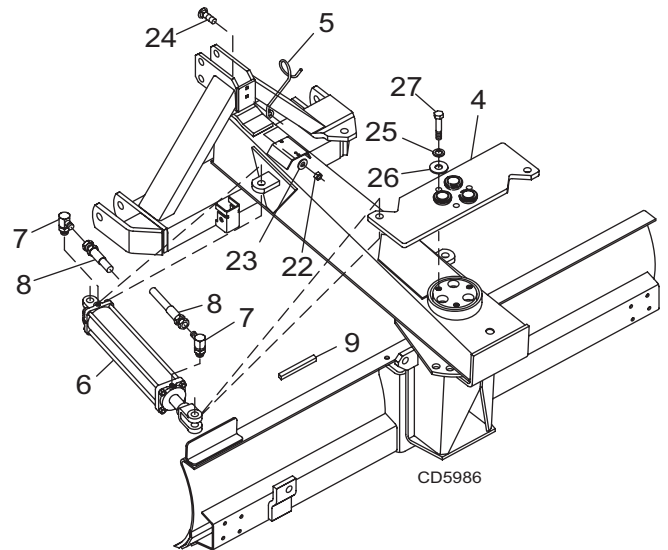
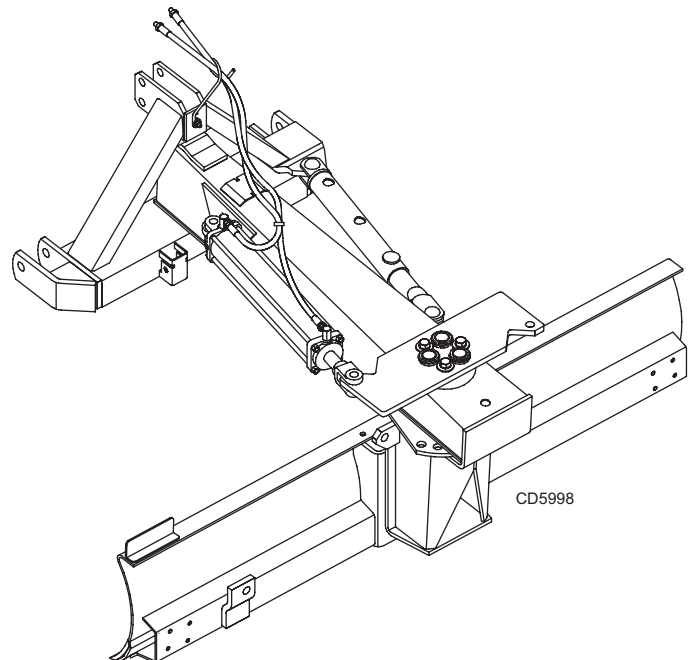

Figure 14. Angle Kit Installation
Figure 15. Angle Kit Hose Routing
Refer to Figure 14.
3. Place hydraulic angle arm assembly (4) on boom as shown Figure 14.
4. Secure into position using three cap screws (27), lock washers (25), and flat washers (26).
5. Attach hydraulic cylinder (6) to boom and hydraulic angle arm assembly as shown. Secure with pins supplied with the cylinder.
6. Attach hose holder (5) to A-Frame using carriage bolt (24), flat washer (23), and lock nut (22).
7. Install adjustable elbows (7) and hoses (8) (Models MA and TA) to cylinder.
**NOTE:** Do not install 84" hoses (8) if Hydraulic Offset cylinder is to be installed.
8. Route hoses as shown in Figure 15.